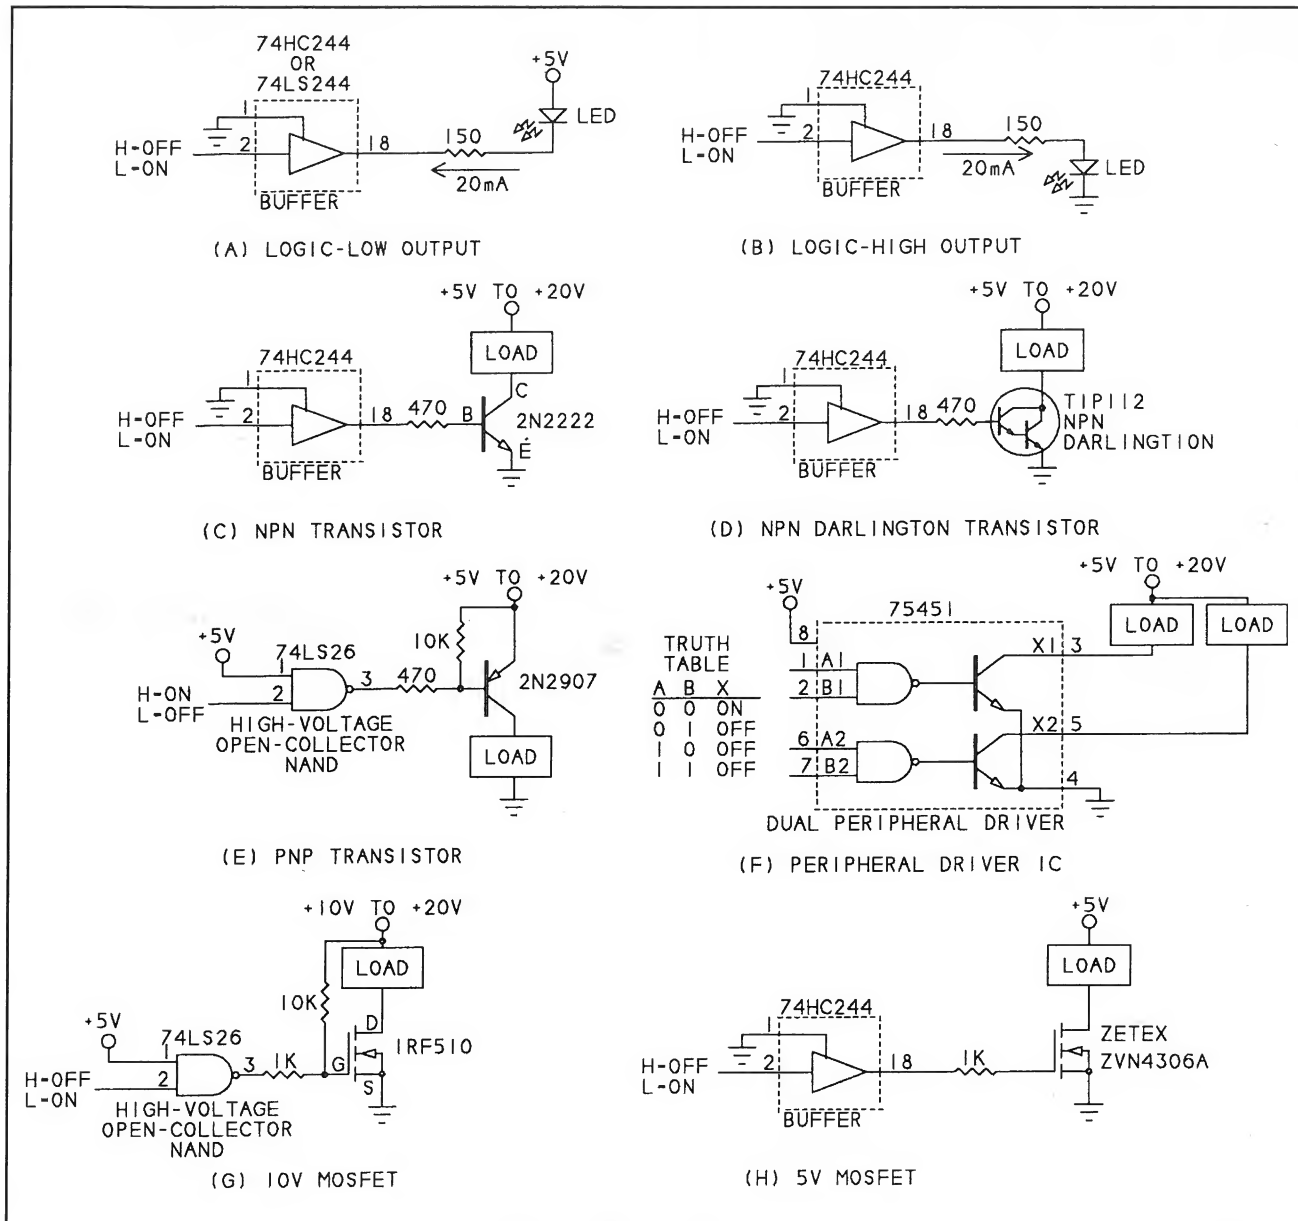

Fig. 3. Eight simple circuits for using a logic output to switch power to a load.
ohms.) If you want 20 mA, a better choice would be a buffer like the 74HC244 that has an absolute maximum output of 35 mA per pin. Illustrations (A) and (B) in Fig. 3 show examples.
Shown in Fig. 3(C) is a circuit that uses a commonly available 2N2222 general-purpose npn transistor. A logic high at the control output biases the transistor into its on condition. A small current flows from base to emitter, and the resulting low collector-to-emitter resistance permits current to flow from the power supply through the load and switch to ground.
For large load currents, you can use a Darlington pair, as illustrated in Fig. 3(D). One transistor in the pair provides the base current to drive a second transistor. Because total current gain equals the gain of the first times the gain of the second, gains of 1,000 are typical for Darlington pairs.
All the above circuits use npn transistors and require source current from a logic-high output to switch on. If you want to turn on a load with a logic-low output, you can use a pnp transistor, as illustrated in Fig. 3(E). In this circuit, a logic-low output biases the transistor on, and a voltage equal to the power supply potential-switches it off.
Another handy way to control a load with logic is to use a peripheral-driver chip like those in the 7545X series and illustrated in Fig. 3(F). Each chip in the series contains two independent logic gates, with the output of each gate controlling a transistor switch.
An alternative to the bipolar transistor is the MOSFET. The most popular type is an enhancement-mode n-channel type in which application of a positive voltage to the gate switches on the device, creating a low-resistance channel from drain to source. An example of such a design is illustrated in Fig. 3(G).
One way to provide the gate voltage from 5-volt logic is to use a device with an open-collector or open-drain output with a pull-up resistor to at least 10 volts, as illustrated in Fig. 3(G). Alternatively, you can look for a device with a low minimum on voltage. Zetex's ZVN4603A can switch 1.5 amperes with just +5 volts applied to the gate, as illustrated in Fig. 3(H).